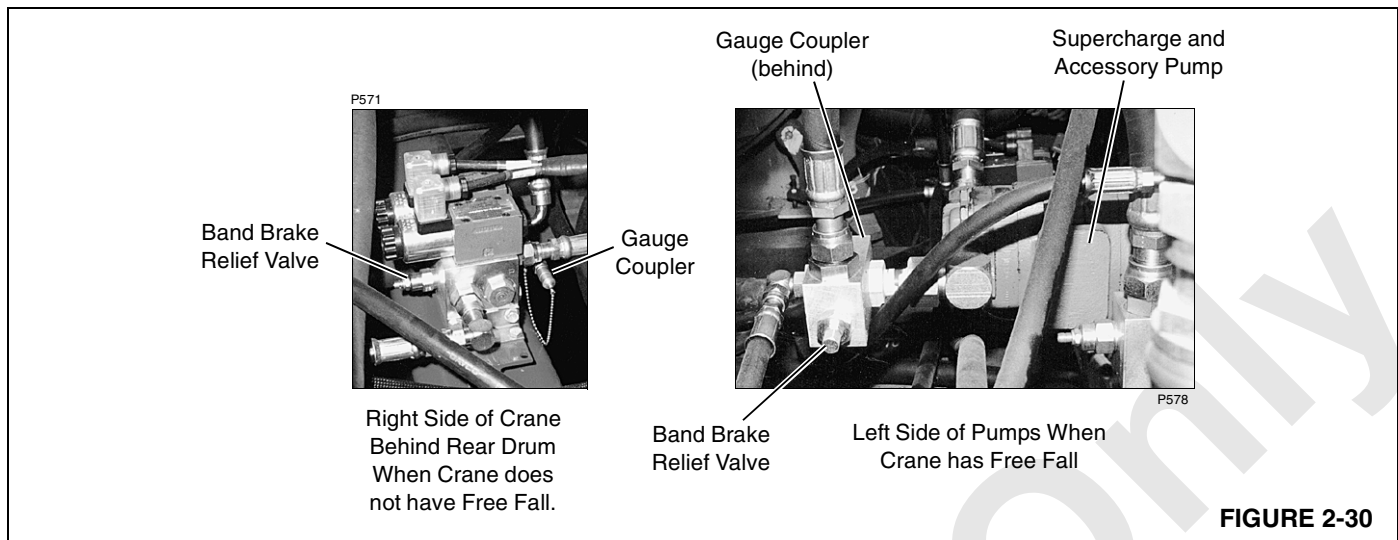

FIGURE 2-30
1. Connect a 0 – 5,000 psi (0 – 344.8 bar) pressure gauge to coupler at band brake relief valve (Figure 2-30).